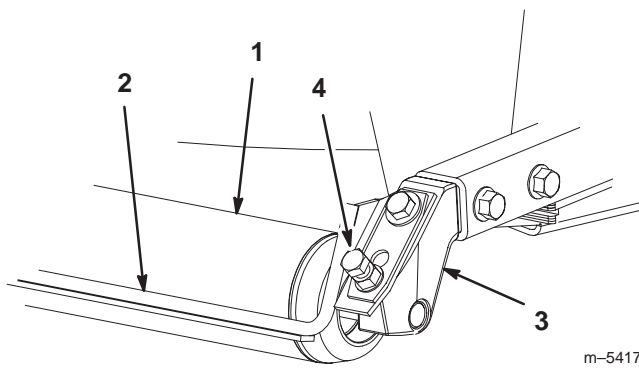

Figure 15
1. Remove mounting screws and nuts securing the scraper to roller mounts (Fig. 15). Remove scraper and plates.
2. Remove mounting screws securing roller mounts to rear of deck frame (Fig. 15). Remove roller mounts.
3. Remove the lower screws securing each end of roller to roller mounts (Fig. 15).